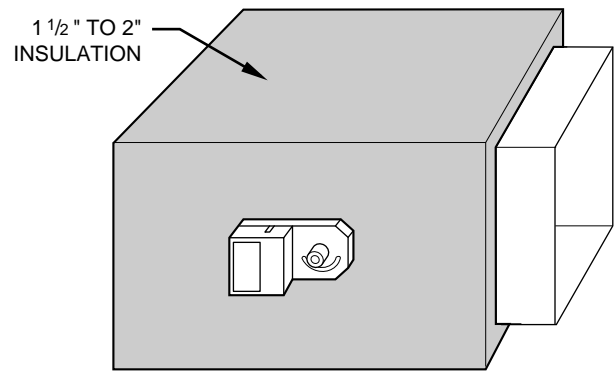

Fig. 4—Insulated Rectangular Metal Duct Work A95131
3. Insulate damper using 1-1/2 in. to 2-in. insulation. (Check your local codes.) (See Fig. 4.)